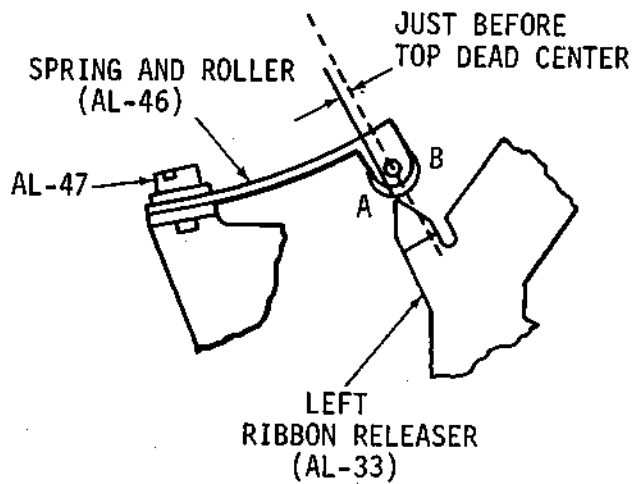

Figure 5-22. SPUR ON LEFT RELEASER (AL-174) AND ROLLER (AL-46)
- f. Replace the control spring (AL-46); adjust the control spring so that the pointer or spur on the ribbon releaser left (AL-33) is just before top dead center on the control spring roller, and then tighten the screw, washer (AL-47, 48) (Refer to Fig. 5-22).